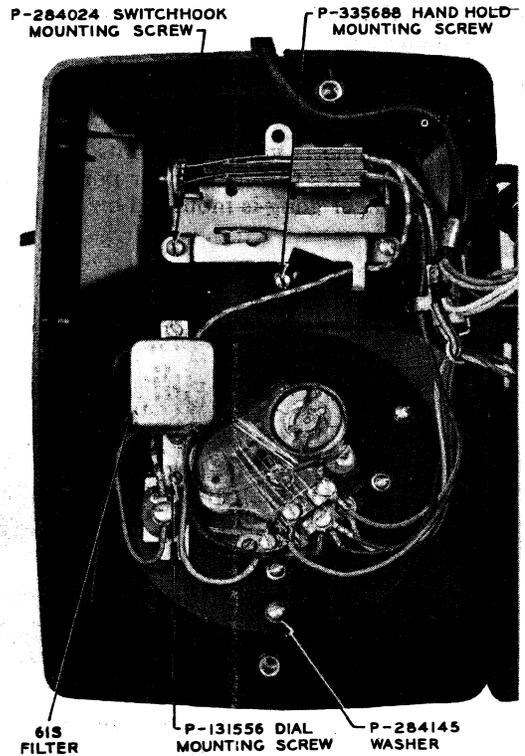

FIG. 5—FILTER AND SWITCHHOOK ASSEMBLY
4.04 This set may be equipped with a 61S filter as shown in Fig. 5.
4.05 The switchhook assembly for this series is shown in Fig. 5.